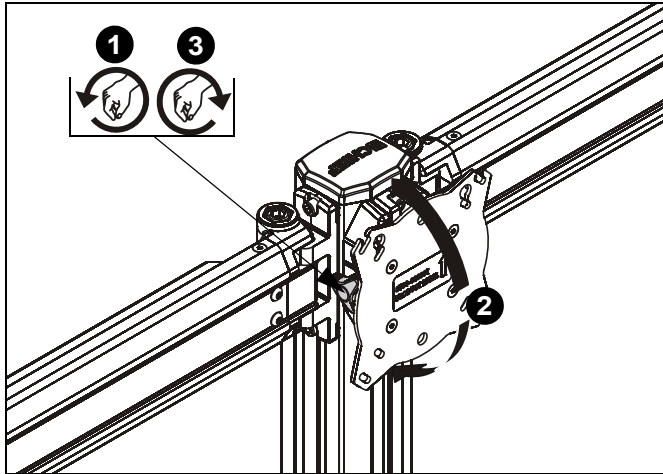

Figure 29
1. Loosen knob on side of center faceplate assembly. (See Figure 29)
2. Adjust pitch as desired. (See Figure 29)
3. Tighten knob to secure desired pitch position. (See Figure 29)